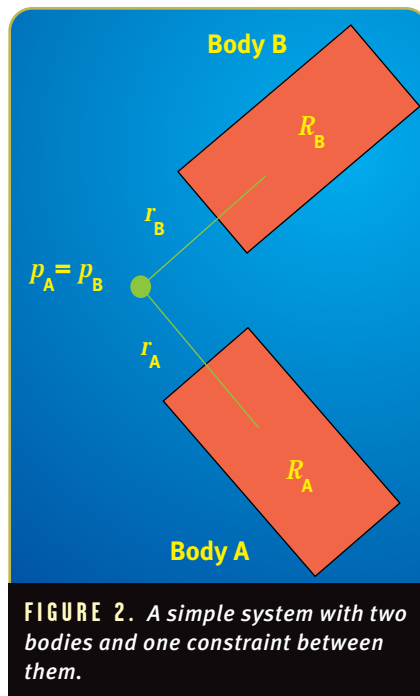

FIGURE 2. A simple system with two bodies and one constraint between them.
The technique we're going to use is called Lagrange Multipliers. The basic idea behind this method is first to calculate the external forces and torques on the constrained rigid bodies, completely ignoring the constraints. Then we calculate the forces of constraint that keep the joints together given these external forces trying to pull the joints apart. So, in Figure 2, if Body B is pulled up by some force, we'll calculate a joint force that will pull up Body A and the constraint will stay satisfied.
Step 1 is incredibly important. If you don't have your conventions worked out before you start, you'll quickly get lost in a sea of conflicting symbols. Our notations and conventions are illustrated in Figure 2. I've labeled the bodies A and B, and all objects fixed on the bodies are subscripted appropriately. So, p_A is the tip of A's constraint vector, computed by adding body A's center of mass position, R_A , to A's joint vector, r_A . Our goal is to enforce the constraint that p_A is equal to p_B in world space at all times. That is, the bodies can move around the world and rotate and what-not, but the ends of their joint vectors had better match up or that means the joint came apart and we screwed up.
FIGURE 2. Some spark effects you can create using a particle system such as the one discussed in this article. Note that all particles perform accurate collision detection and response in these two screenshots.
from this feature. You can see some spark effects I've created in Figure 2.